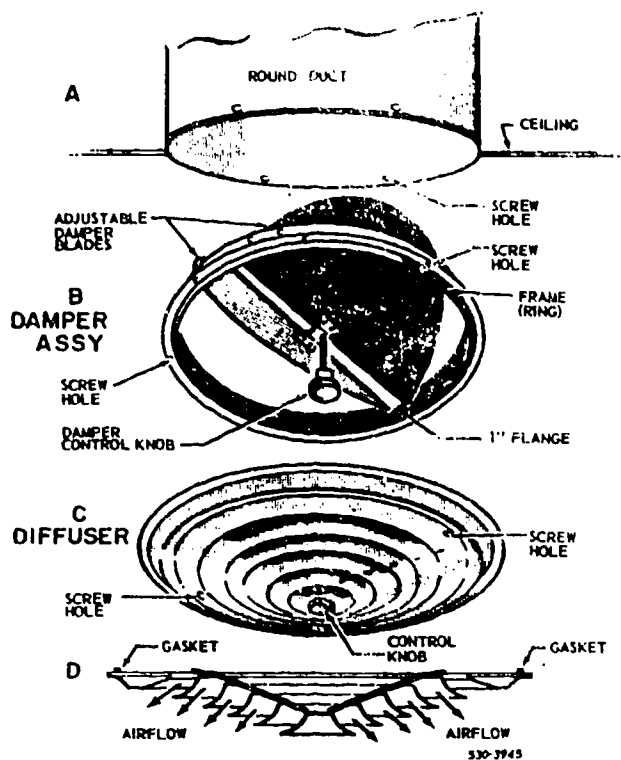

Figure 3-12. Ceiling diffuser and volume damper.
**Ceiling Diffusers.** Several types of ceiling diffusers are used at the supply outlet of some duct systems. Figure 3-12 shows a round diffuser with an adjustable damper assembly. View C shows the diffuser as it appears when installed over the damper assembly (B). View D is a cutaway view of the diffuser showing how the turn vanes diffuse the airflow. Notice how the airflow is dispersed in all directions from the diffuser. View B shows the parts of the volume damper assembly, including the frame (ring), adjustable butterfly damper blades, and control knob. You can open and close the blades by turning the knob, which is attached to a threaded shaft. Some damper assemblies of similar design have a pull chain to open or close the blades.